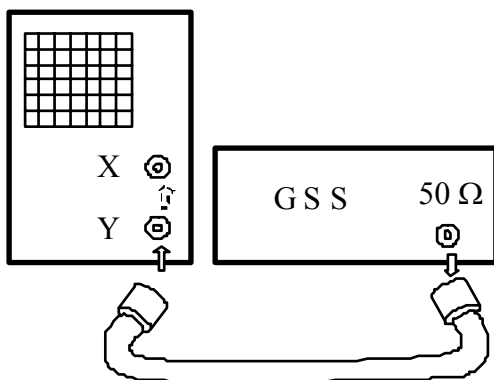

Figure 1
1. Testing the vertical sensitivity (figure 1)
2. Testing the horizontal sensitivity (figure 1)
3. Testing the sweeping coefficient (figure 1)
4. Measuring the bandwidth (a.c.) at -3 dB (figure 1): $f_{\min} = \dots\dots$ Hz; $f_{\max} = \dots\dots$ MHz